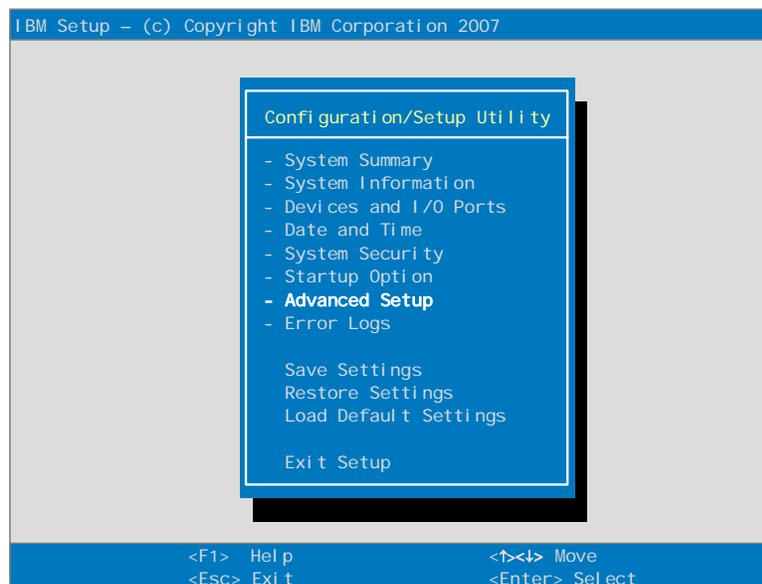

Figure 6-1 Main menu of the Configuration/Setup utility
1. When the HC10 is booting, press F1 to enter the Configuration/Setup Utility. Select **Advanced Setup** and press Enter (Figure 6-1).